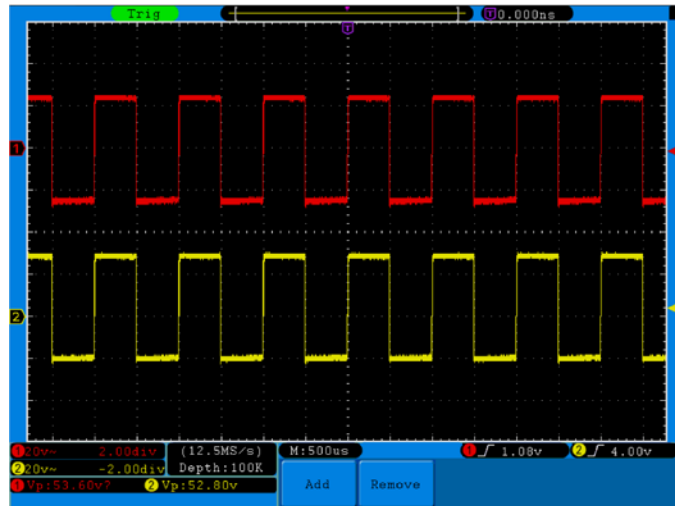

Fig. 80 Waveform of Gain Measurement
8. Read the peak-to-peak voltages of Channel 1 and Channel 2 from the bottom left of the screen (See Fig. 80).